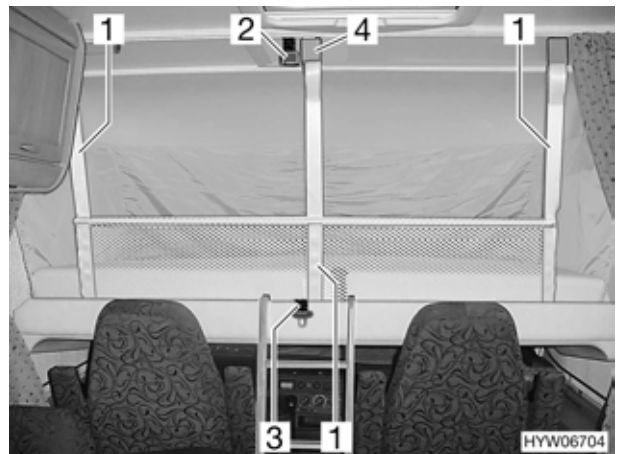

Fig. 67 Pull-down bed complete with applied safety net
- Undo retaining belt (Fig. 67,3).
- Hook retaining belts (Fig. 67,1) into the hooks (Fig. 67,4) on the ceiling.
- Release retaining belts (Fig. 67,1) and place underneath mattress.
- Secure pull-down bed to the roof (Fig. 67,3) by means of the retaining belt (Fig. 67,2).